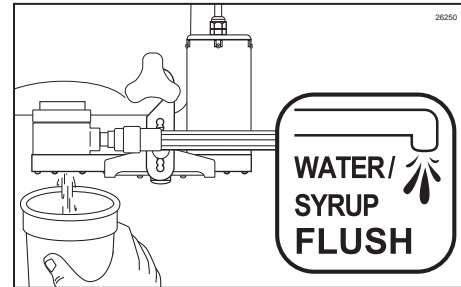

Figure 108
5. With a container under the Injector Head, press the WATER / SYRUP FLUSH key until the sanitizer solution is removed from the sanitizer line. (See Figure 108.)